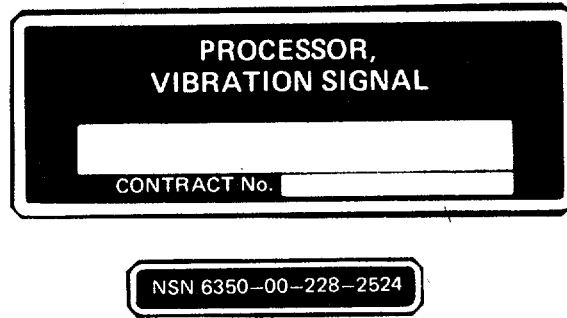
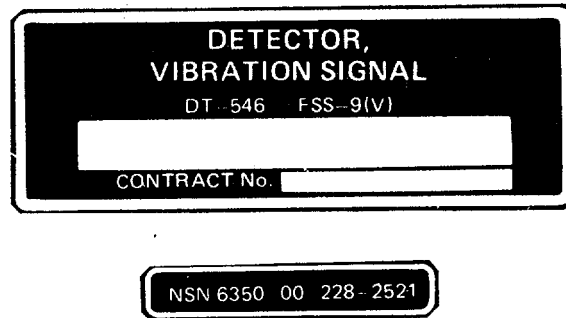

Figure 1-3. Processor Identification Plates
Figure 1-4. Detector Identification Plates
- a. Identification Data. Two plates, identification and NSN are mounted inside each chassis. Plates for the Processor are shown in figure 1-3 and for the Detector in figure 1-4.